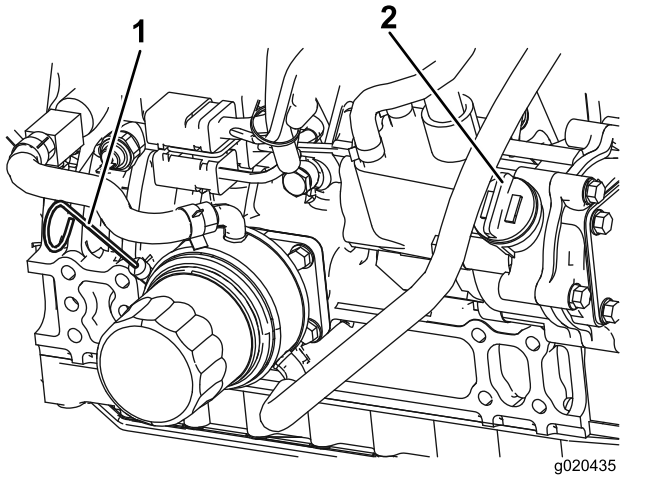

Figure 78
The oil level should be in the safe range (Figure 78).
4. If the oil is below the safe range, remove the fill cap (Figure 78) and add oil until the level reaches the Full mark.